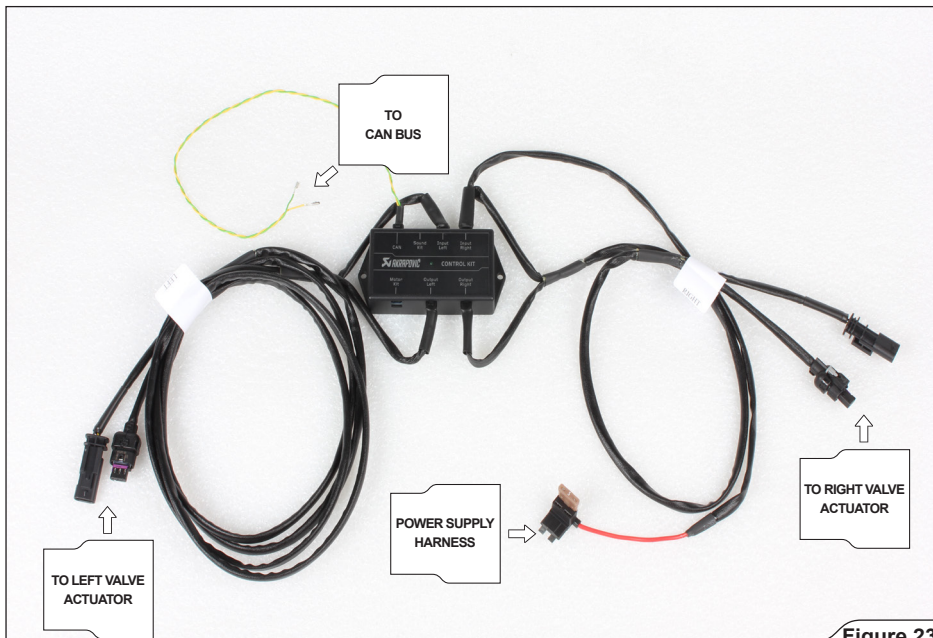

Figure 23
1. **For Installation of Akrapovič Control Kit components only:** disassemble the vehicle's Can Bus connector, insert the Control Kit unit's wires exactly as shown, locate the marked fuse (fuse panel D, fuse position nr.5), remove it, put it in the free fuse spot on the Sound kit's power supply connector and connect the Sound kit's connector back to the **fuse position nr.5** (Figure 23, 24, 25, 26, 27, 29).